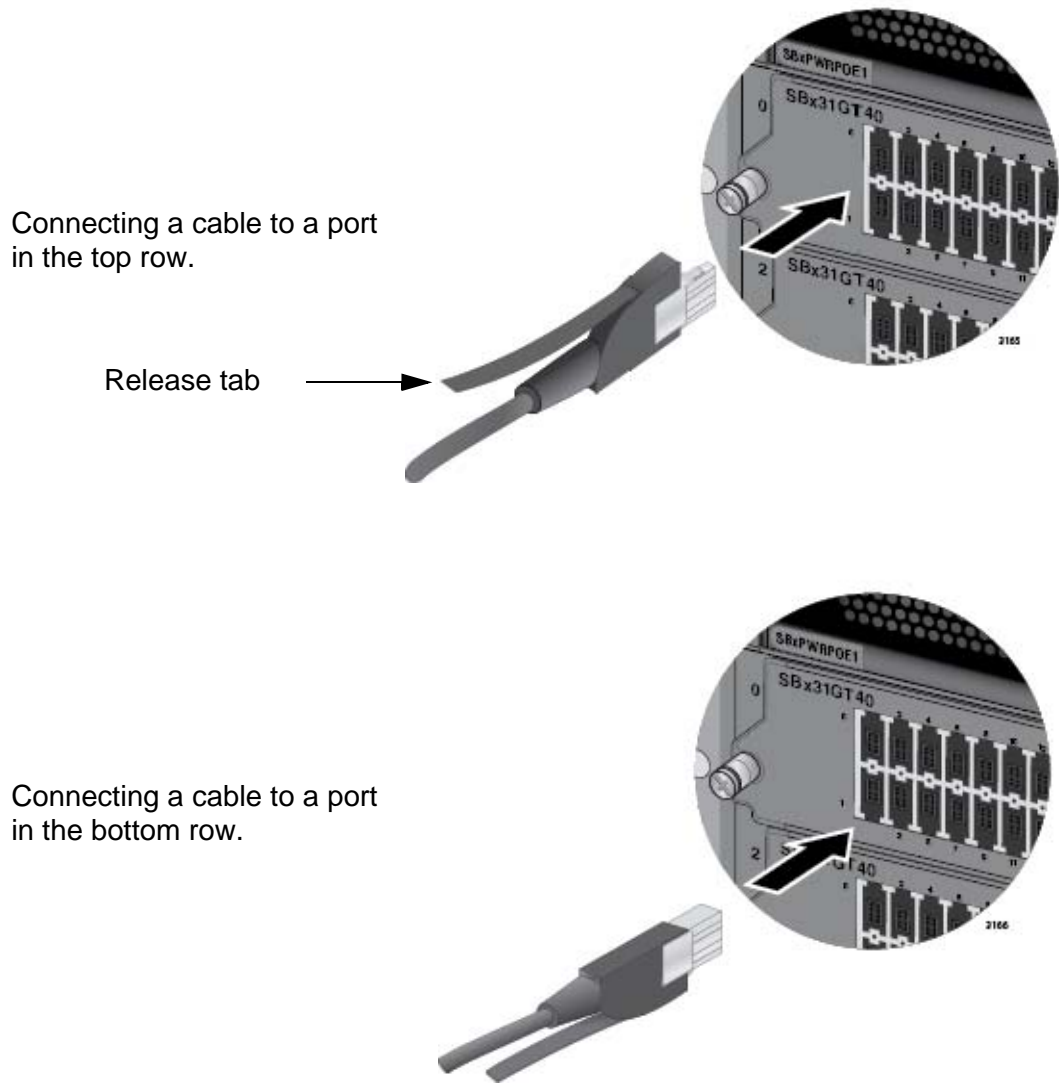

Figure 83. Connecting Cables to Ports on the AT-SBx31GT40 Line Card
- ❑ To connect a cable to a port in the top role on the line card, orient the connector with the release tab on top. To connect a cable to a port in the bottom role, orient the connector with the release tab on the bottom. Refer to Figure 83 on page 144.